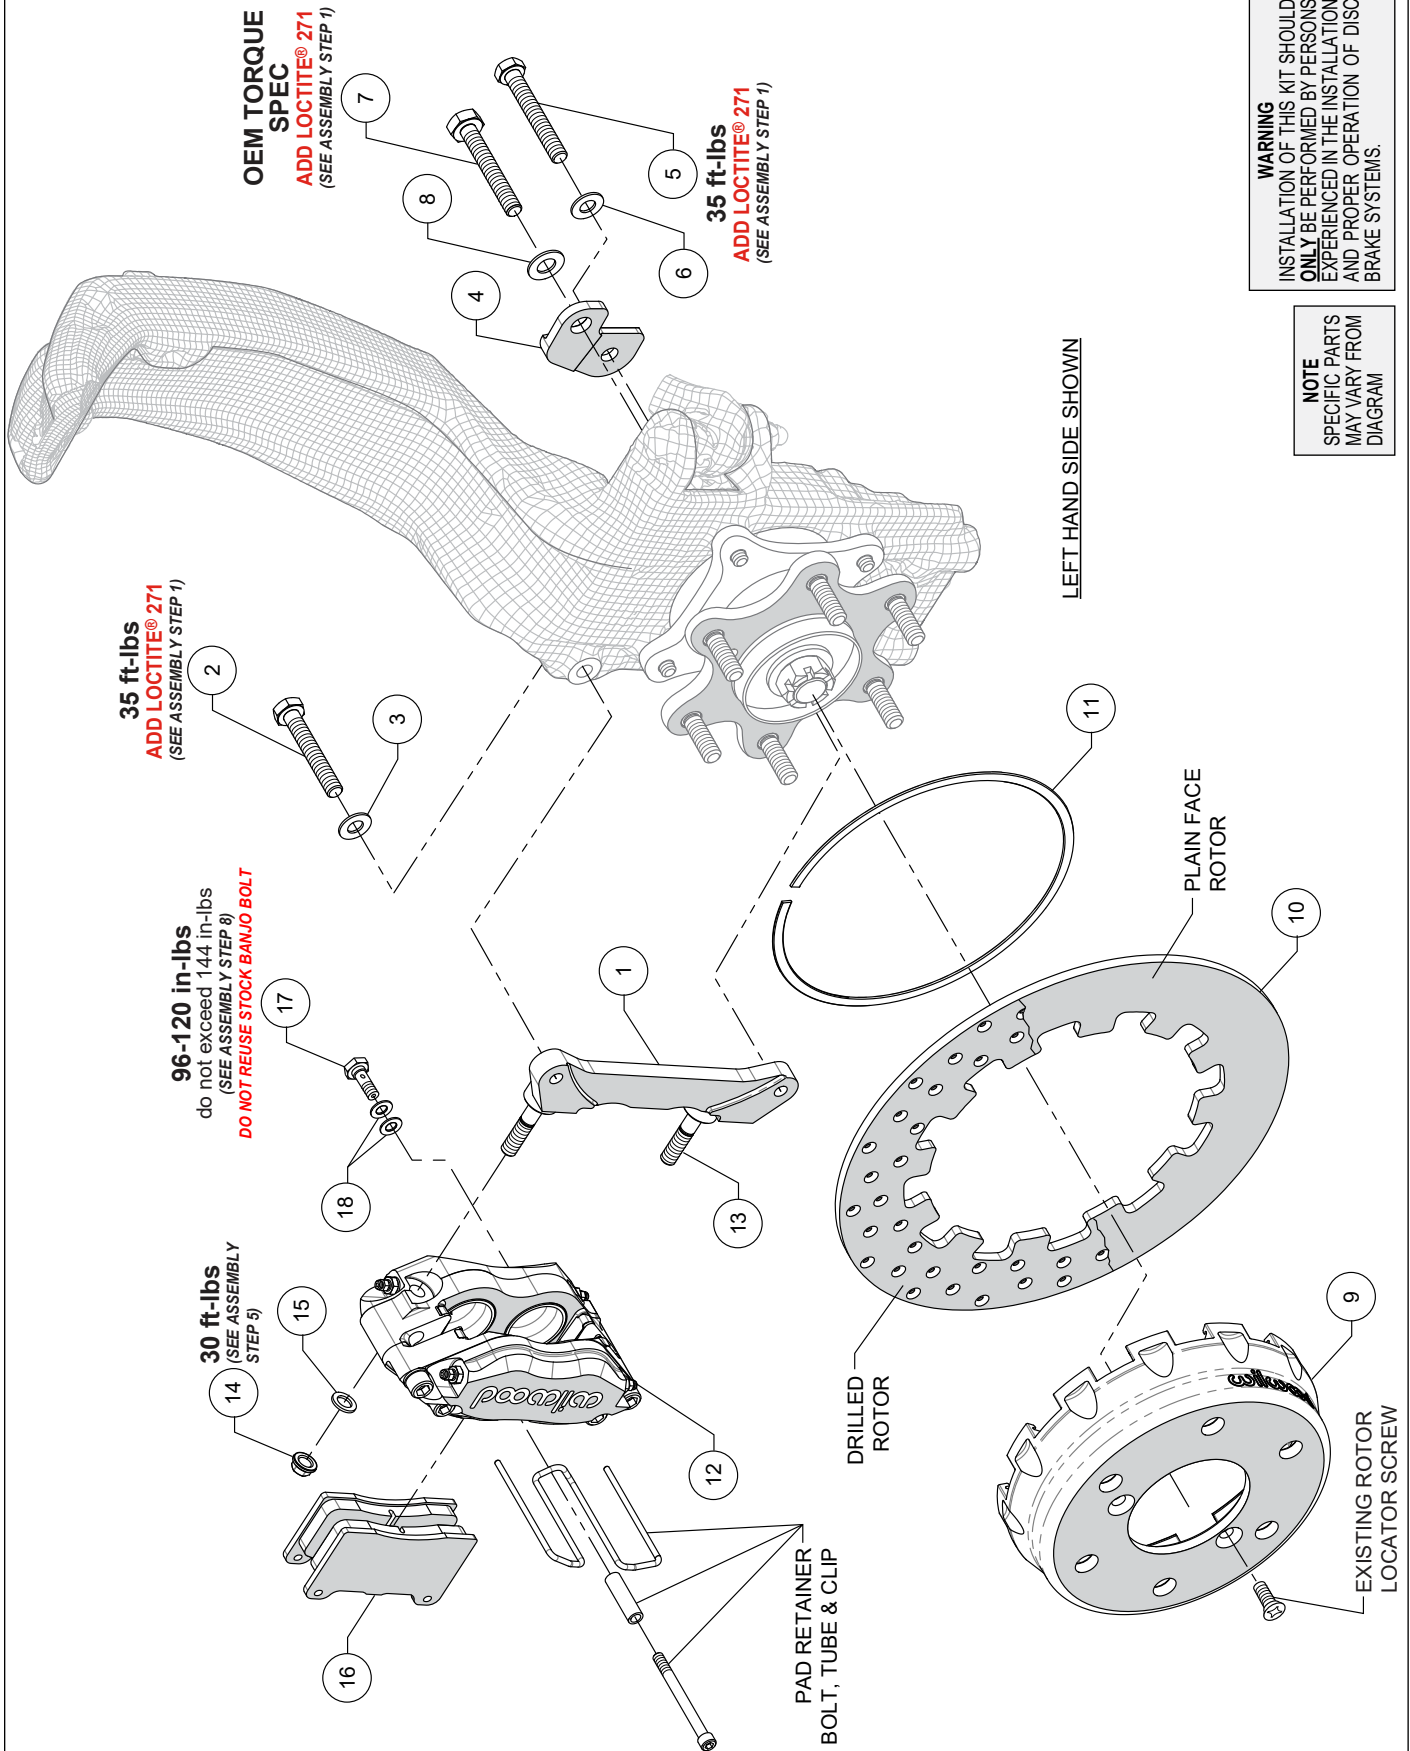

Figure 1. Typical Installation Configuration
NOTE: Numbers in parenthesis refer to the parts list and Figure 1 on the preceding pages.
STEP 1 The caliper mount bracket (1) should initially be installed with clean, dry threads on the mounting bolts. Orient the bracket, as shown in Figure 1 and Photo 1, and initially install using only the upper bolt (2) and washer (3). Remove the lower factory hub mounting bolt and set aside, Photo 1 (arrow). **NOTE:** A new hub mounting bolt (7) is included with the Wilwood kit. Orient the new steering stop bracket (4) as shown in Figure 1 and Photo 2 and install using caliper bracket mounting bolt (5) and washer (6). Finish mounting the steering stop bracket by installing hub replacement bolt (7) and washer (8). Temporarily tighten the mounting bolts. **NOTE:** The brackets must fit squarely against the mount bosses on the upright. Inspect for interference from casting irregularities, machining ridges, burrs, etc. Remove the caliper bracket mounting bolts (2 & 5) one at a time, apply red *Loctite*® 271 to the threads, and torque to value shown in Figure 1. Then remove the hub mounting/steering stop bolt (7), apply red *Loctite*® 271 to the threads, and torque to OEM specifications.
STEP 2 Position the rotor (10) onto the hat (9), making sure the rotor lugs fit into the recesses of the hat, as shown in Photo 3.
STEP 3 Secure rotor to the hat using the snap ring (11) by installing the ring into the groove in the hat, as shown in Photos 4 and 5. **Carefully inspect snap ring to ensure complete engagement in the groove.**
STEP 4 Slide the hat/rotor (9/10) assembly onto the axle hub. **NOTE:** The hat must fit flush against the axle hub flange or excessive rotor run out may result. Install the existing rotor locator screw to keep the hat/rotor assembly in place while continuing with the installation, Figure 1 and Photo 6.
STEP 5 Mount the caliper (12) onto the caliper bracket studs (13) using lock nuts (14) and washers (15), Figure 1. Torque lock nuts (14) to value shown in Figure 1.
STEP 6 Remove the pad retainer bolt, tube, and clip from the caliper (12), Figure 1. Insert the brake pads (16) into the caliper with the friction material facing the rotor, as shown in Photo 7. Secure the pads in place using the pad clip retainer as well as the pad retainer tube and bolt, Photo 8. The bolt should be snug without play in the tube. Be cautious not to over tighten.
STEP 8 Attach brake line to caliper. Connect OEM brake line to caliper using banjo bolt (17) and crush washers (18), Photo 9. Do not use lubricant or thread sealant on banjo bolt (17). Torque to minimum value shown in Figure 1. Check for leakage, increasing torque only to stop leakage without exceeding maximum specification. Replace crush washers and banjo bolt whenever reassembly is required. **Ensure hoses are routed to prevent contact with moving suspension, brake or wheel components.**